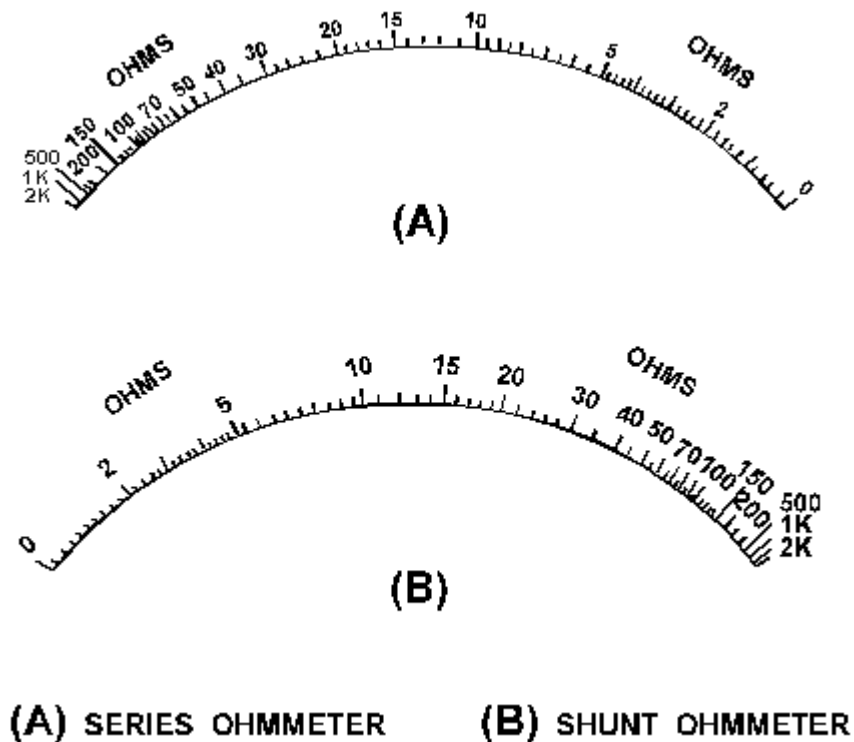
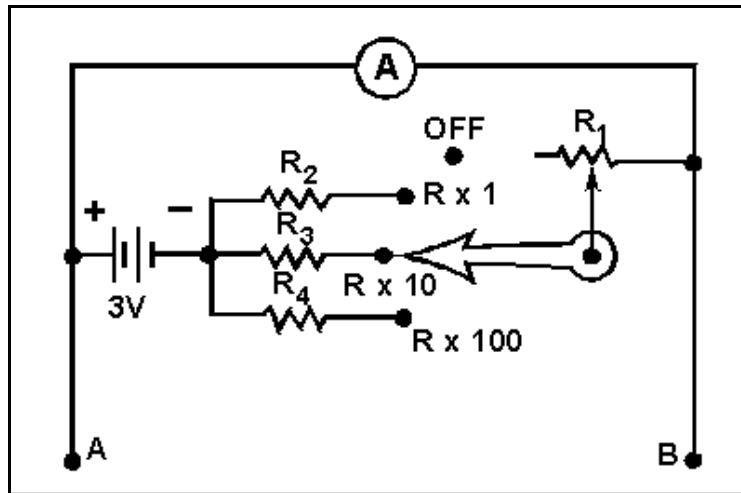

Figure 1-34.—Series and shunt ohmmeter scales.
Figure 1-35.—A shunt ohmmeter with internal range resistors.
The ohmmeter described to this point is known as a series ohmmeter, because the resistance to be measured is in series with the internal resistors and the meter movement of the ohmmeter. Another type of ohmmeter is the **SHUNT OHMMETER**. In the shunt ohmmeter, the resistance to be measured shunts (is in parallel with) the meter movement of the ohmmeter. The most obvious way to tell the difference between the series and shunt ohmmeters is by the scale of the meter. Figure 1-34 shows the scale of a series ohmmeter and the scale of a shunt ohmmeter.
Figure 1-34(A) is the scale of a series ohmmeter. Notice "0" is on the right and "∞" is on the left. Figure 1-34(B) is the scale of a shunt ohmmeter. In the shunt ohmmeter "∞" is on the right and "0" is on the left. A shunt ohmmeter circuit is shown in figure 1-35.
In figure 1-35,  $R_1$  is a rheostat used to adjust the  $\infty$  reading of the meter (full-scale deflection).  $R_2$ ,  $R_3$ , and  $R_4$  are used to provide the  $R \times 1$ ,  $R \times 10$ , and  $R \times 100$  ranges. Points A and B represent the meter leads. With no resistance connected between points A and B the meter has full-scale current and indicates